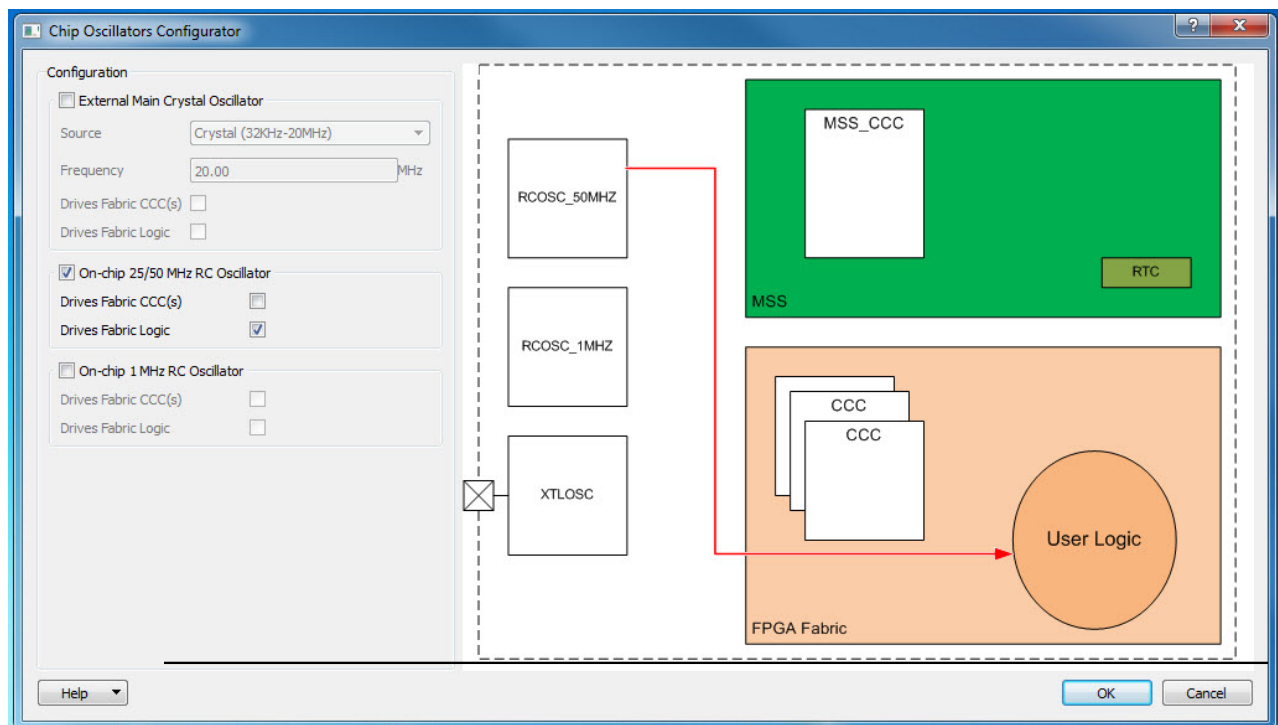

Figure 33 • Chip Oscillators Configurator
2. Configure this core such that the oscillator drives the FPGA fabric, as shown in Figure 33 below.